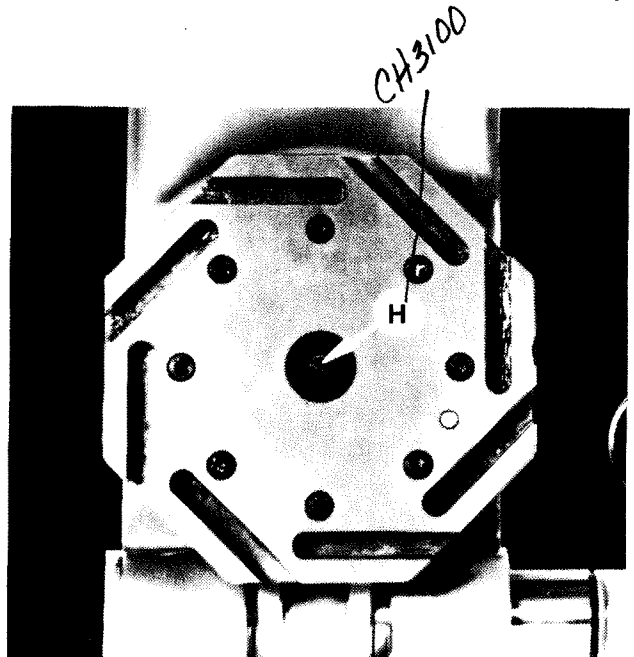
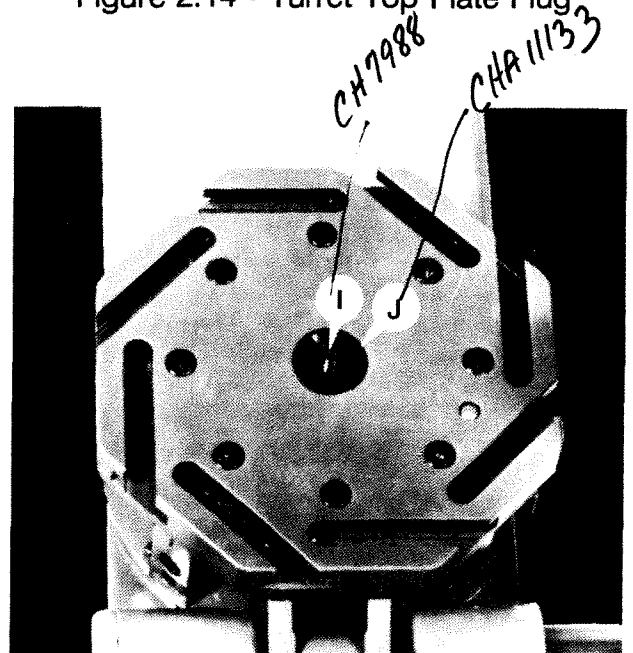

Figure 2.14 - Turret Top Plate Plug
Figure 2.15 - Lock Screw and Lock Plug
8. Remove oil plug "H", Figure 2.14 .
Lock screw "I", Figure 2.15, is located directly under oil plug "H", Figure 2.14 .
9. Remove lock screw "I", Figure 2.15, using a $\frac{1}{8}$ " hex wrench.
11. Assemble lock plug "J" and the O-ring, Figure 2.15 .
19. Lubricate the turret indexing mechanism by applying several drops of Mobil® Vactra® Oil No. 2 or equivalent in the opening which will be sealed by oil plug "H", Figure 2.14 .
1. Remove oil plug "H" and O-ring, Figure 2.14 .